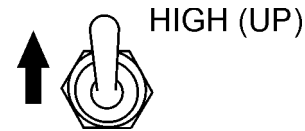

Figure 53. Engine Speed Switch (High)
2. Place the **engine speed switch** (Figure 53) in the **HIGH** position